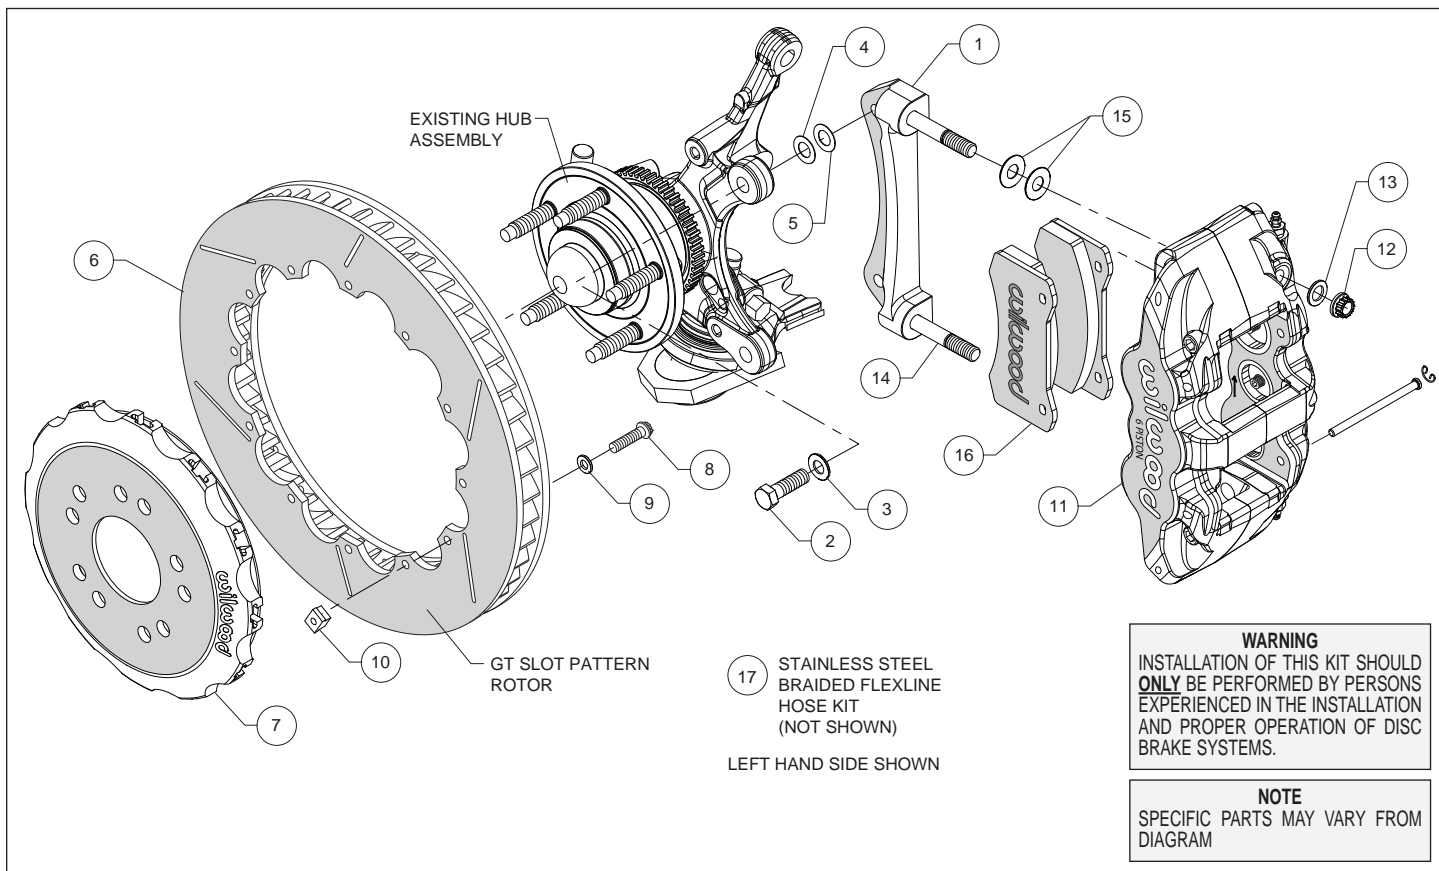
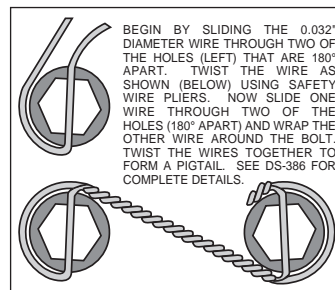

Figure 1. Typical Installation Configuration
Figure 4. Safety Wire Diagram
**Assembly Instructions** (numbers in parenthesis refer to the parts list and Figure 1 on the preceding pages):
- The caliper mount bracket (1) should initially be installed with clean, dry threads on the mounting bolts. Orient the bracket, as shown in Figure 1 and Photo 1, and install using bolts (2) and washers (3). Initially place one .033" thick shim (4) on each bolt between the bracket and upright, Figure 1. Temporarily tighten the mounting bolts. **NOTE:** *The bracket must fit squarely against the mount bosses on the upright.* Inspect for interference from casting irregularities, machining ridges, burrs, etc. Later, after the caliper alignment has been checked, the mount bolts will be secured using red *Loctite*® 271.
- Orient the rotor (6) and the hat (7) as shown in Figure 1 and Photo 2. Attach rotor to hat using bolts (8), washers (9), and t-nuts (10), Figure 1. Follow additional instructions included with the bolt kit. Using an alternating sequence, apply red *Loctite*® 271 to the threads, and torque to 120 **in-lbs**. For an added measure of security, the bolts may be safety wired using standard 0.032 inch diameter stainless steel safety wire as shown in Figure 4. Refer to Wilwood's data sheet DS-386 (available at [www.wilwood.com/Pdf/DataSheets/ds386.pdf](http://www.wilwood.com/Pdf/DataSheets/ds386.pdf)) for complete safety wire installation instructions.
- NOTE:** *This kit contains distinct right and left hand calipers that must be mounted in a specific direction, as described below.* Lubricate the caliper mounting studs (14) with lightweight oil. Initially place two .030" thick shims (15) on each stud between the caliper and the bracket, as shown in Figure 1 and Photo 3. Mount the caliper (11) onto the bracket (1) using lock nuts (12) and washers (13), Figure 1. Temporarily tighten the lock nuts. Ensure that the caliper is mounted so the largest pistons are at the rotor exit end of the caliper, in relation to the direction of the rotor. View the rotor through the top opening of the caliper. The rotor should be centered in the caliper, Photo 4. If not, adjust by adding or subtracting shims (4 and/or 5) between the bracket and the upright. Always use the same amount of shims on each of the two mounting bolts. Once the caliper alignment is correct, remove the bracket mounting bolts one at a time, apply red *Loctite*® 271 to the threads, and torque to 60 ft-lbs.
- Remove the two pad retaining pins from the caliper (11) by carefully popping out the pin retaining clips and sliding out the pins. Insert the brake pads (16) into the caliper from the bottom, Figure 1 and Photo 5. With the friction material facing the rotor, secure the brake pads in place with the pad retaining pins and clips, Photo 6. Reinstall the caliper onto the caliper mounting bracket and temporarily tighten the lock nuts. Check that the top of the brake pad is flush with the outside diameter of the rotor, Photo 7. If not, adjust by adding or subtracting shims (15) between the caliper and the bracket. After the caliper pad height is set, torque the caliper lock nuts (12) to 47 ft-lb.